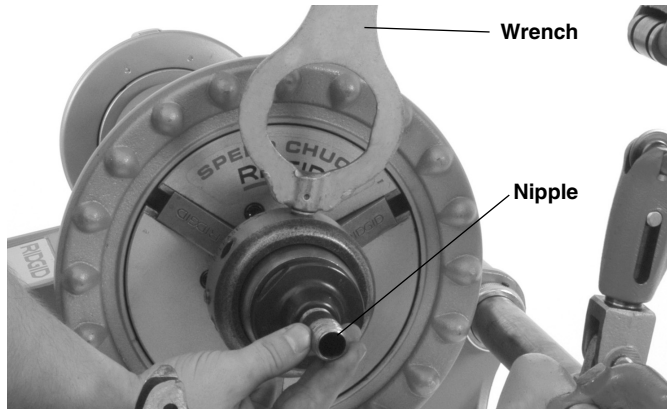

Figure 4 – Removing Nipple
12. Insert the wrench pin into one of the holes on body of the nipple chuck. Turn the wrench to release the finished nipple and unscrew from the adapter. See Figure 4. Remove wrench.